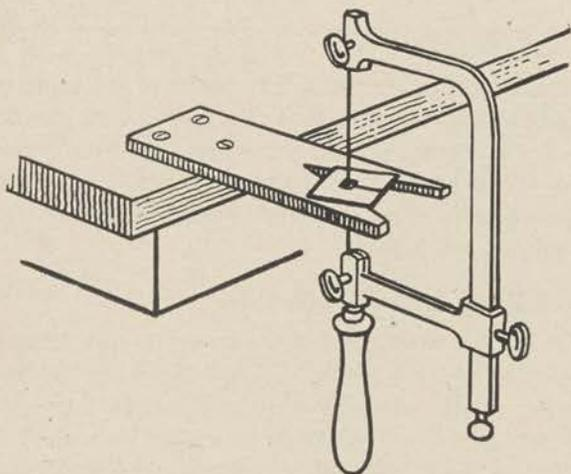

Figure 92.
(2) In using the jeweler's fret saw, make sure that the blade is taut and that the teeth point downward toward the handle. Hold the saw vertical with the handle below the sheet of metal. Move it with short, quick strokes, sawing only on the downward one (fig. 92). Filing also should be done on the forward stroke, never in two directions.